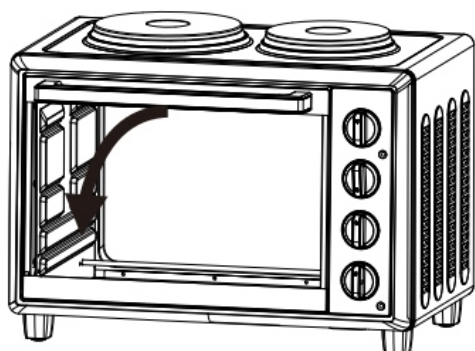
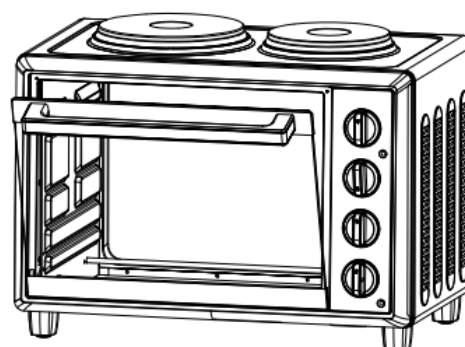

Fig. 9
Fig. 10
- How to open and close the door – see Figs. 9 -11
6. Open the oven door (Fig. 9) and place the food into the oven using the grill rack and / or baking tray (Fig. 10) .